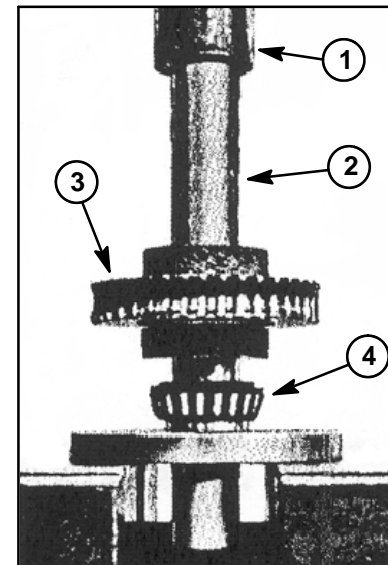

Figure 22
3. If worm gear and bearing cones were removed from output shaft, fit key into output shaft and position gear to shaft. Press gear onto shaft until the gear is centered on the key (Fig. 22). Pressing on the inner bearing race, install bearing cones until they are tight against the gear.
B. Install both open caps (item 14) (O-ring and seal not installed on cap) to gearbox housing. Torque cap screws **8 ft-lb (10.8 N-m)** while checking for binding of shaft. If shaft binds as screws are tightened, add additional shims.